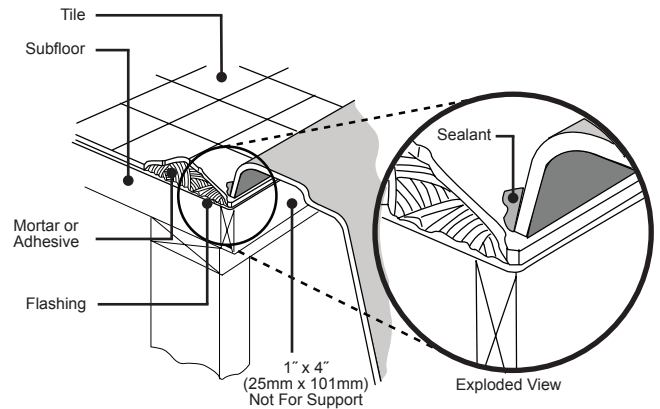

Figure 8
Complete the bathtub surround installation (Figure 8).
- 14** Caulk around the perimeter of bathtub to seal the space between the rim and the finished deck (Figure 8 on previous page).